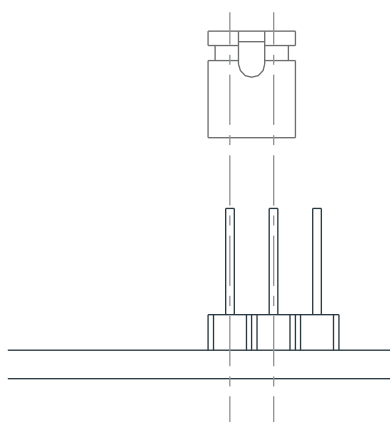

Figure 1
- a.) When customer doesn't need remote lamp, please insert terminal to N. (See **Figure 1** below)